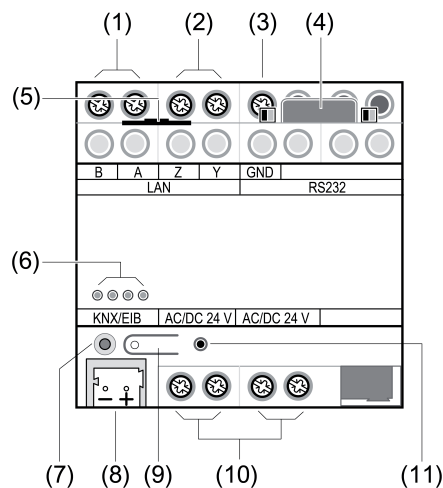

Figure 1: Front view
- Press the programming button (9)(Figure 1).